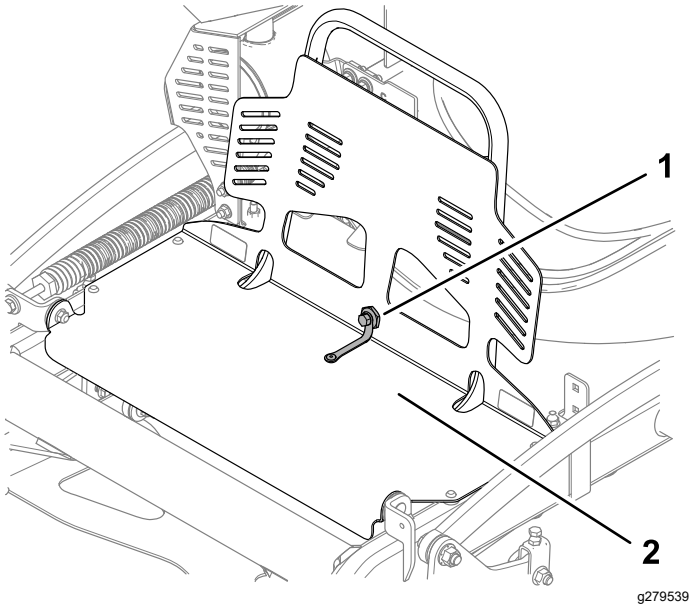

**Figure 32**
2. Loosen the twist knobs on each side of the machine (Figure 32).